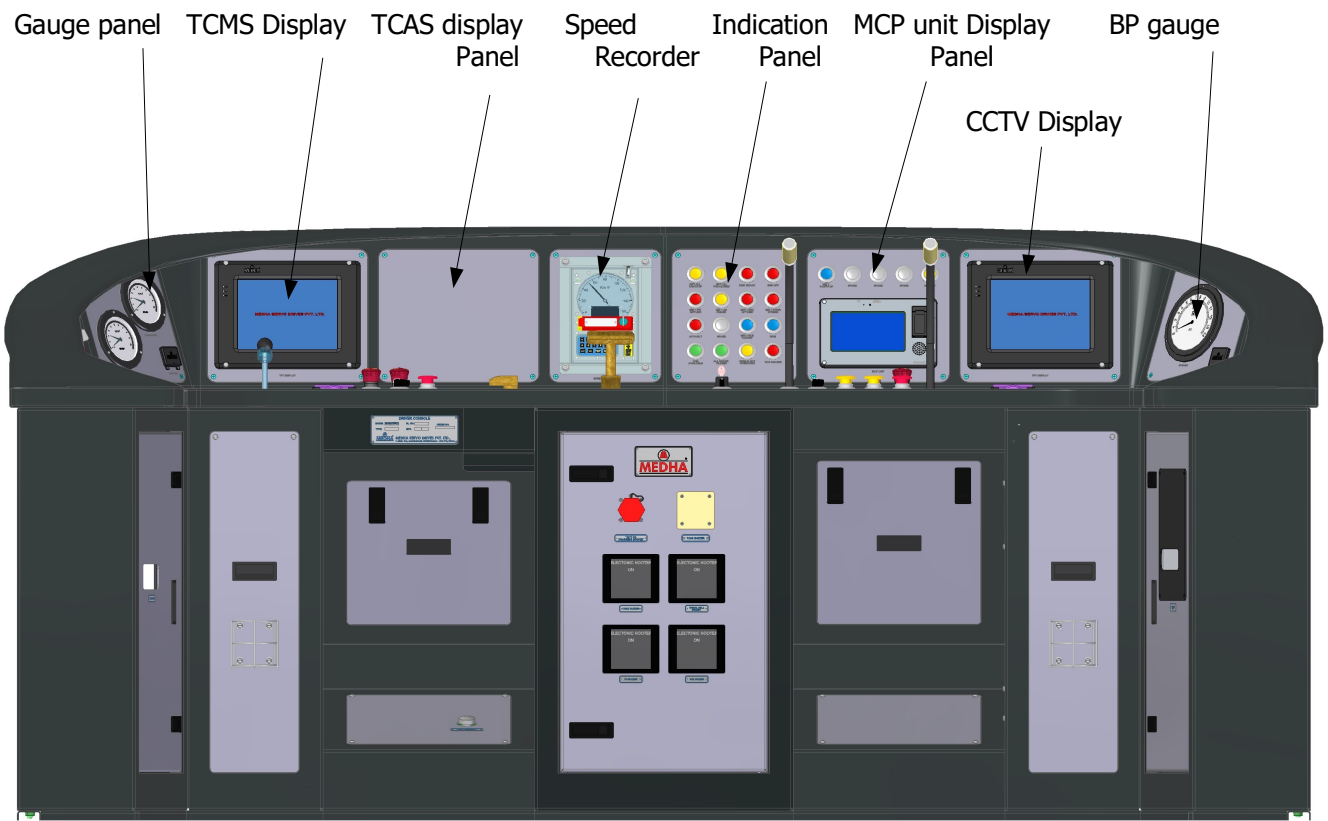

Figure 2 : Overview of components in Driver Console
- Figure 2 : Overview of components in Driver Console